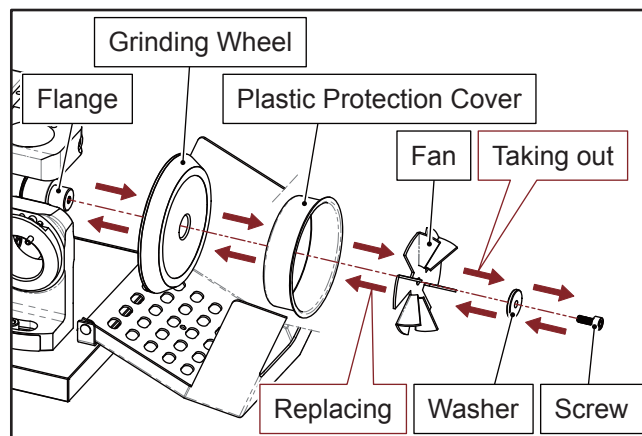

Fig. 6-3
- ④ Loosen the screw from the grinding wheel to take off the grinding wheel. (Fig. 6-3)
- ⑤ Use clean cloth to clean the flange and the contact surface of the grinding wheel.
- ⑥ Replace the new grinding wheel and fasten the screw. (Fig. 6-3)
- ⑦ Close the grinding wheel cover and secure with screw.